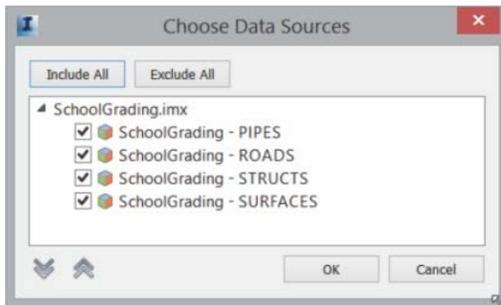

Figure 39
- In the Choose Data Source dialog box (shown in Figure 39) select the AutoCAD Civil 3D objects that you want to import. Click **OK**.